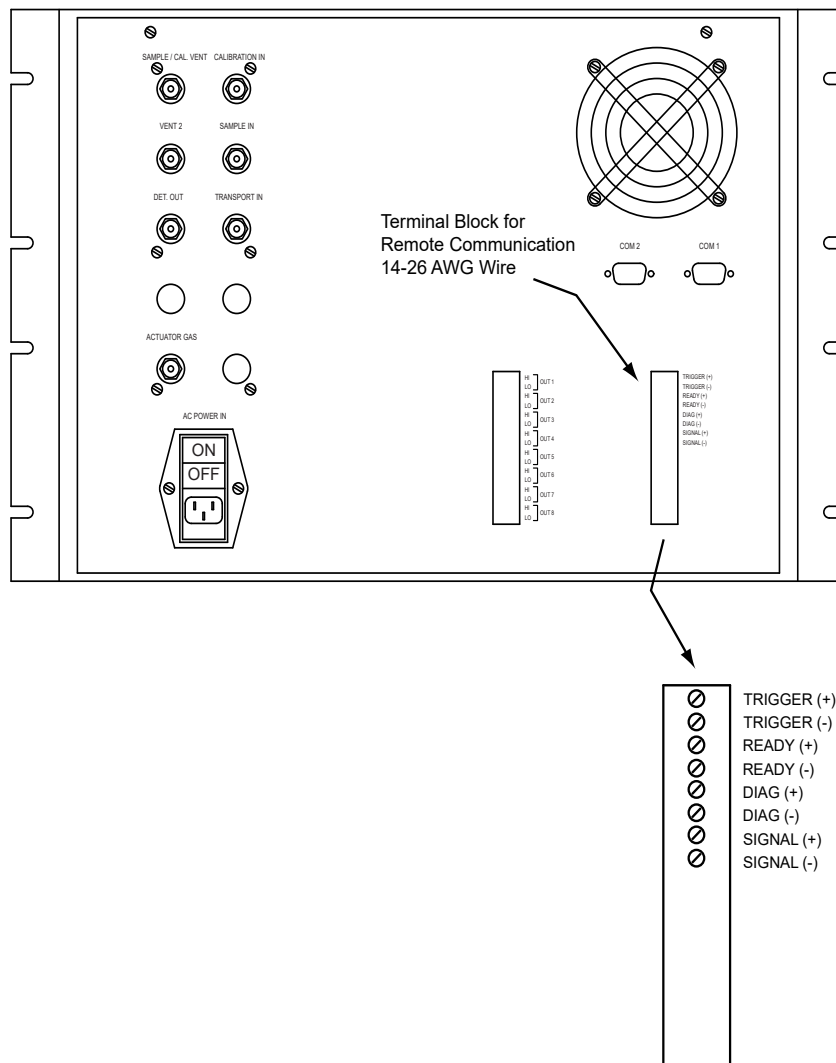

Figure 4-3
C. *Trigger, Ready, Diagnostic and Signal Functions Strip*: Refer to Figure 4-3 and Table 4-2. Wire size to fit the terminal blocks is 14-26 AWG.